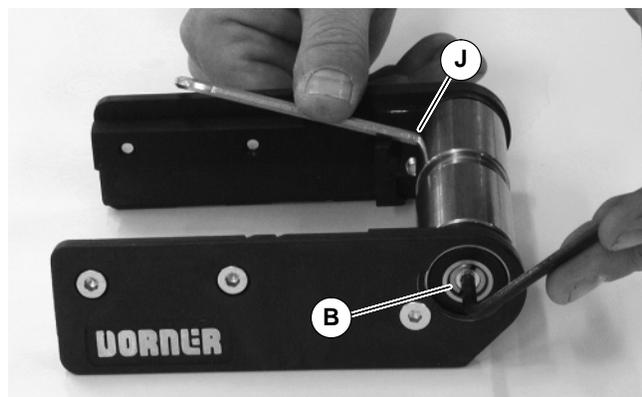

Figure 5
5. With 4mm hex-key wrench, loosen pulley taper screw (B of Figure 5). Steady pulley with second hex-key wrench (J) inserted into pulley hole. Repeat procedure for opposite side of pulley.